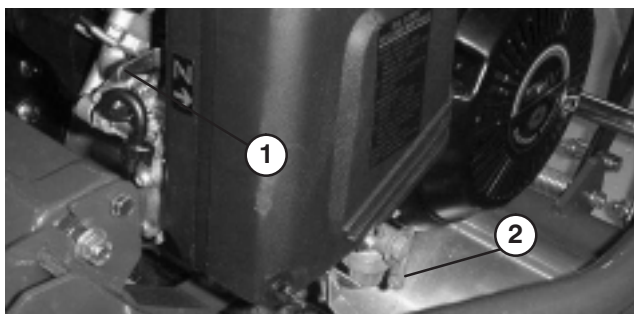

Figure 24
The choke lever (Fig. 24) is located on left front of engine. Lever has two positions: Run and Choke. Move lever to Choke position when starting a cold engine. After engine starts move lever to Run position.
The fuel shut-off valve (Fig. 24) is located on left front of engine. Valve has two positions: Closed and Open. Move lever to closed position when storing or transporting machine. Open valve before starting engine.
2. Open fuel shut-off valve on engine (Fig. 24).
5. Move choke lever (Fig. 24) to half-open position when starting a cold engine. Choke may not be required when starting a warm engine.